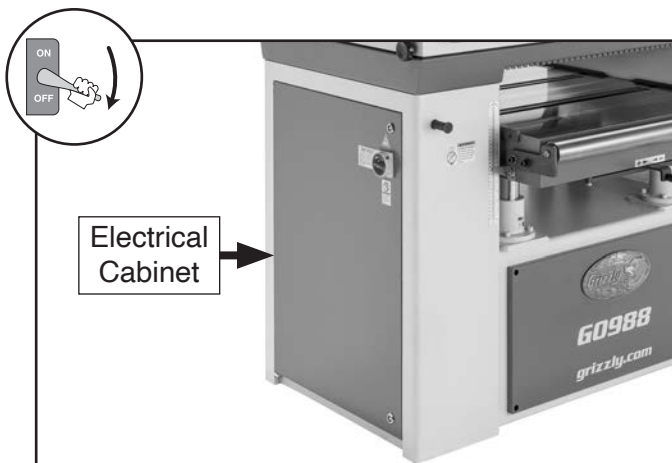

Figure 8. Location of electrical cabinet.
2. Open electrical cabinet (see **Figure 8**).